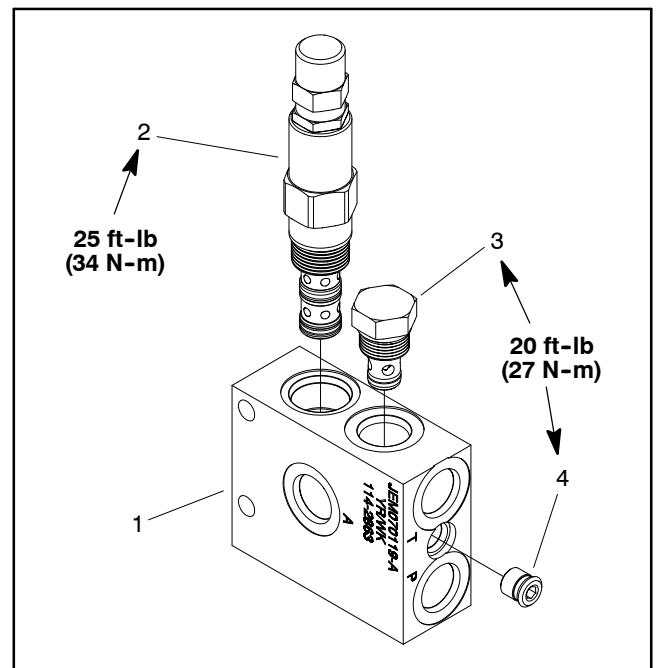

Figure 46
Manifold Service (Fig. 46)
6. Thread valves carefully into correct manifold port. The valves should go in easily without binding. Using a deep socket, torque valves to values identified in Figure 46.